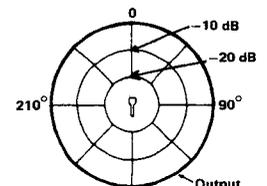

FIGURE 4—
**Omnidirectional Pickup Pattern.** The pickup pattern of an omnidirectional microphone may be represented as an inflated balloon with the microphone at the center, as shown in Figure 3. Usually a polar pattern is used to represent the pickup pattern, illustrated in Figure 4. The polar pattern shows the loss in output (in dB) experienced as a constant-output sound source moves 360° around a fixed microphone at a fixed distance from the microphone.